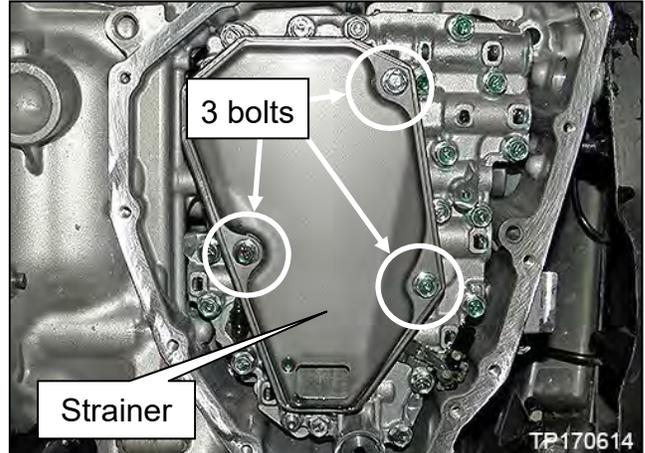

Figure 6
9. Remove the three (3) strainer bolts, and then remove the strainer from the control valve (Figure 6).